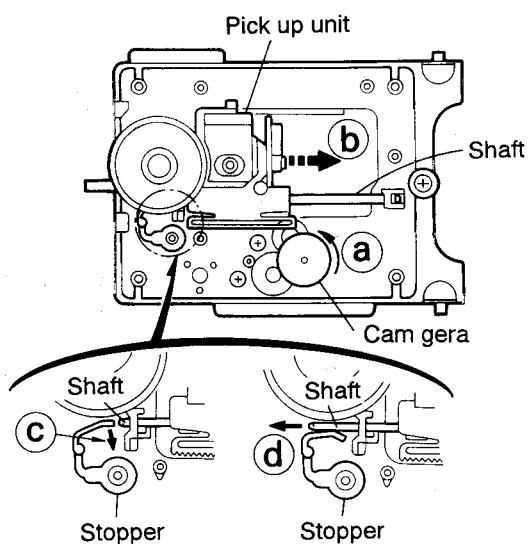

Fig. 5-27a
Removing the CD pickup unit (See Fig. 5-27a)
2. According to the above step, shift the CD pickup unit to the center position (Fig. 5-27a).
3. While pressing the stopper retaining the shaft in the arrow direction (c), pull out the shaft in the arrow direction (d) (See Fig. 5-27a).